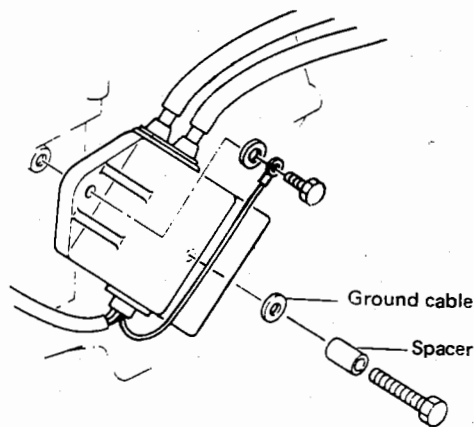

Fig.9.5
6. When attaching the C.D. unit, arrange the lead wire on the high voltage side after passing on the rear side of the C.D. unit, and fix the ground cable with bolt (H635), spacer and washer as shown in Fig.9.5.